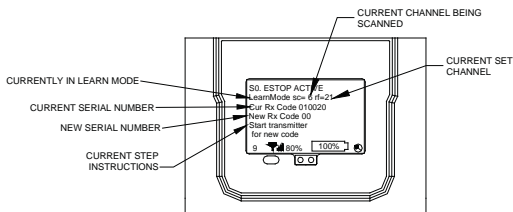
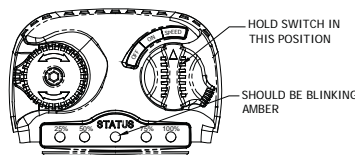

Figure 1—LCD screen display during step 2
Figure 2—Transmitter Switch Position
2. After the LEARN tag has been put into place and the receiver is powered up, it will begin to search for the proper Channel and Serial Number of the transmitter. **Note: The transmitter must be powered up and the start/speed button must be held in the "speed" position. Make sure the transmitter is blinking the amber led in the center. Reference figure 1 below for LCD screen display during this step. Reference figure 2 below for transmitter switch position.**